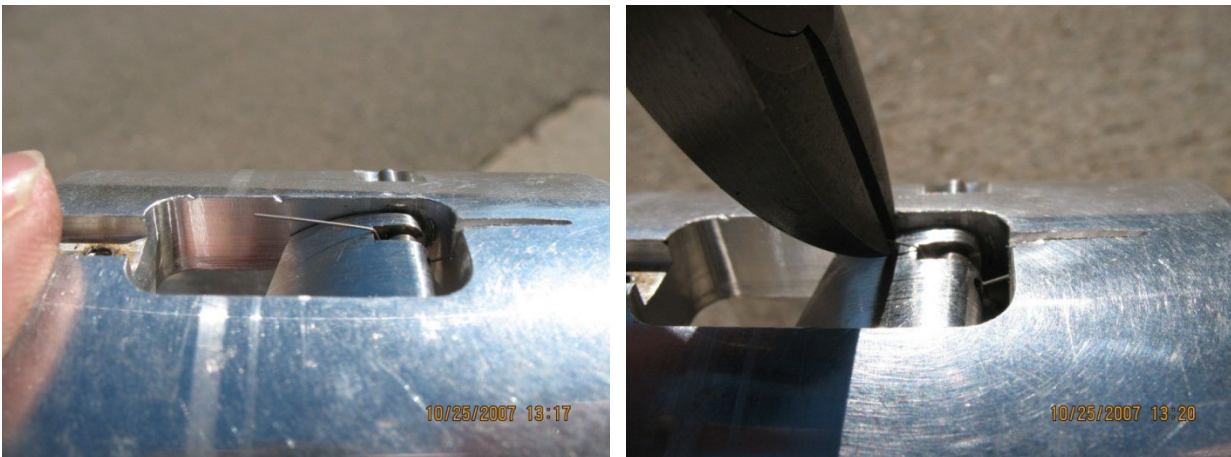

Figure 11: Core Dog Spring Bend and Trimming
- 8.2** The cutting edge of the cutter is made up of two intersecting angles. The rake angle (Figure 11) is  $45^\circ$ . The relief angle (Figure 11) is  $10^\circ$ . When sharpening the cutters, care should be taken to avoid changing either of these angles, particularly the relief angle. Changing the relief angle will adversely affect the penetration rate of the drill.
11.1.5.1 If there is noticeable scratching on the relief face (Figure 11) of the cutter, this means that there is something hard in the bottom of the hole; likely a rock or a small screw/washer. If something cannot be recovered (Section 11.3.1) from the borehole, this hole will need to be abandoned because every subsequent set of cutters used in it will be quickly destroyed.